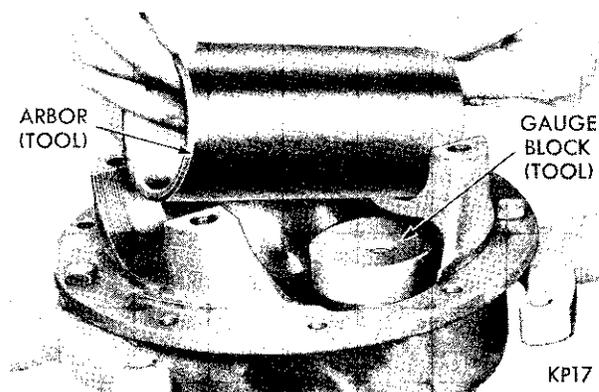

Fig. 28—Installing Arbor in Carrier
(6) Position tool arbor SP-561 in differential bearing pedestals of carrier (Fig. 28). Center the arbor so that an approximate equal distance is maintained at both ends. Position differential bearing caps and attaching bolts on carrier pedestals, and insert a piece